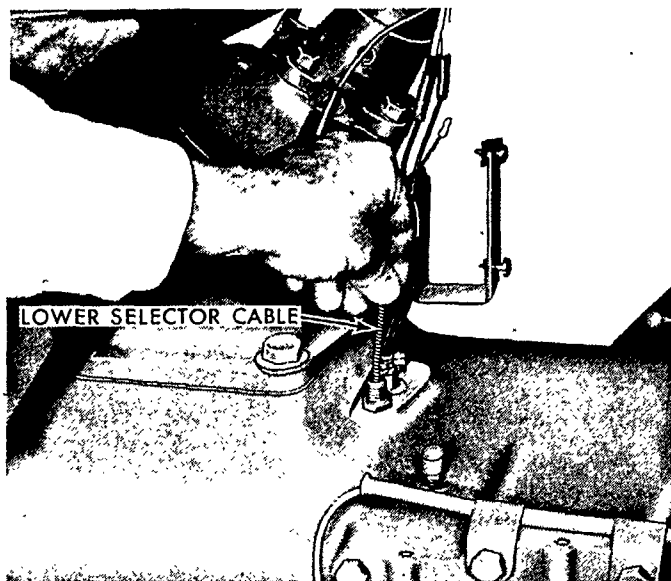

Figure 41
4. Thread the control selector cable out of the cable wheel and withdraw the cable, Figure 41.
5. Insert the control selector cable into the conduit and thread the cable into the cable wheel. Align the cable so there is no binding and tighten the conduit retaining bolt, Figure 41.